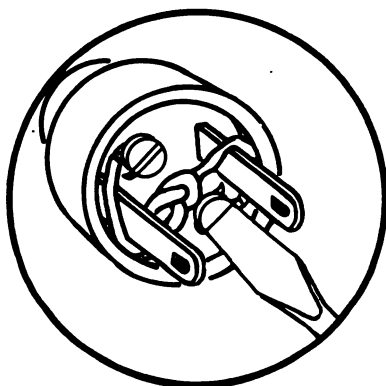

Fig. 10
10. Tighten the screw. Insulation should come to the screw but not under it. (Fig. 10)